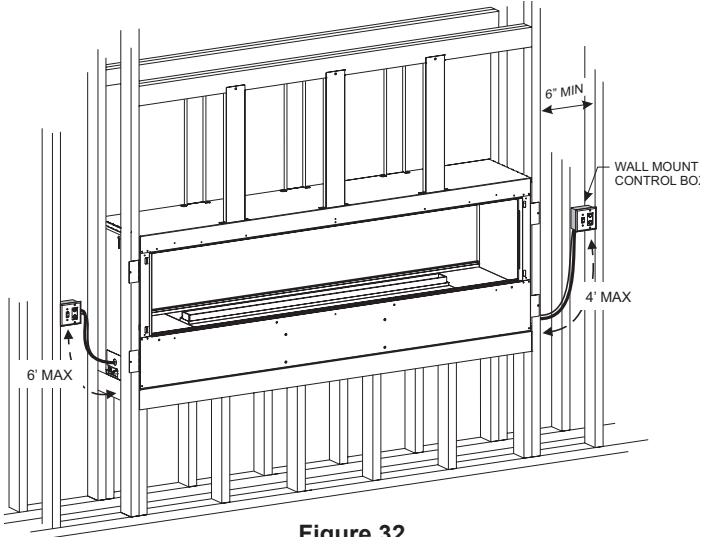

Figure 32
12. Install the wall-mounted control box within 6 feet to the left side or 4 feet from the right. See Figure 32.